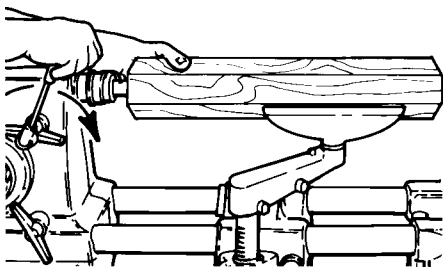

Figure C-43
- e. Hold the end of the stock against the cup center, then extend the quill and mount the other end on the drive center. Press hard against the quill feed lever, then lock the quill. See Figure C-43.